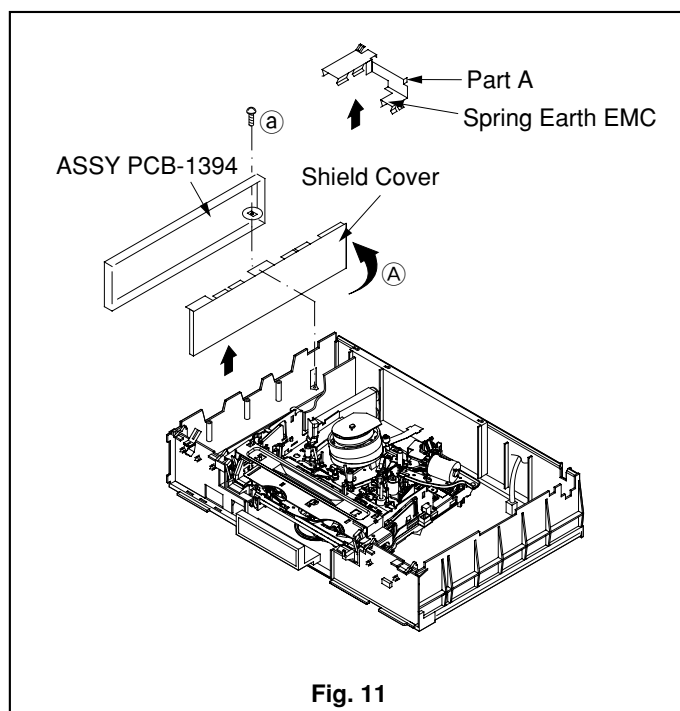

Fig. 11
5. Pull out the Part A, lift and remove the Spring Earth EMC as shown in Fig. 11.
6. Unfasten the one screws (Ⓐ) shown in Fig. 11 and remove the PCB-1394 ASSY.
8. Separate the bottom of the Shield Cover from the ASSY PCB-1394 first. Remove the Shield Cover moving the bottom in the direction shown by the arrow (A) as shown in Fig. 11.
7. Pull out the Part A, lift and remove the Spring Earth EMC as shown in Fig. 11.